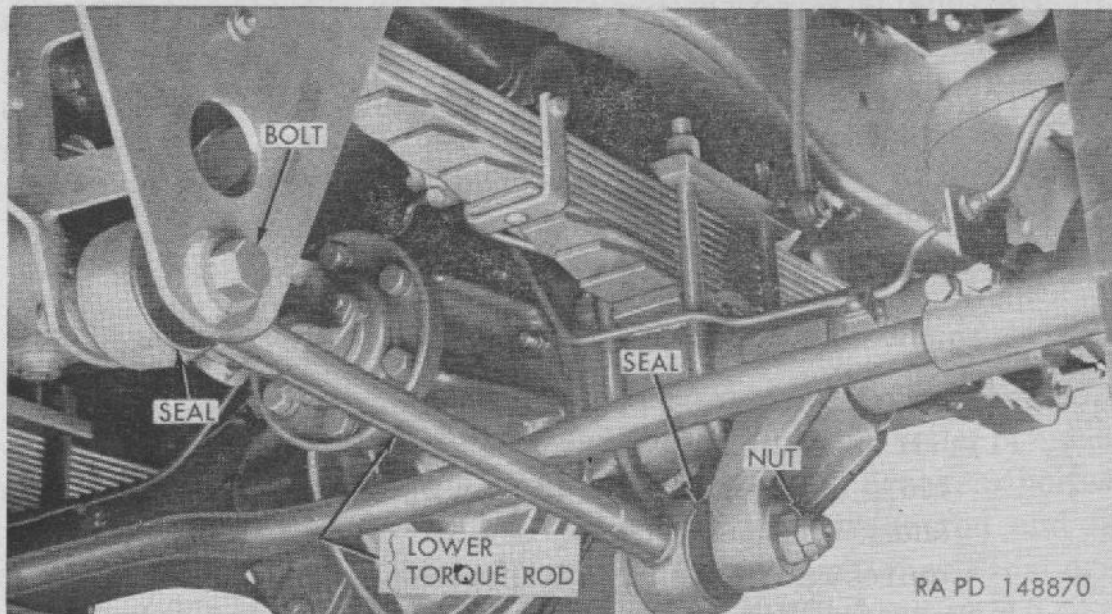

Figure 155. Right front spring lower torque rod installed.
b. TORQUE RODS. Three torque rods, two lower and one upper, transmit driving and braking forces to frame. Lower torque rod frame brackets are integral with front spring rear shackle brackets (fig. 155). Upper torque rod frame bracket is mounted on inside of right frame side rail just ahead of spring rear frame bracket. Axle end of torque rods are equipped with tapered ball studs mounted in material requiring no lubrication. Frame ends of torque rods are also equipped with replaceable bear-
a. TORQUE ROD REMOVAL (fig. 155).
b. TORQUE ROD INSTALLATION (fig. 155).